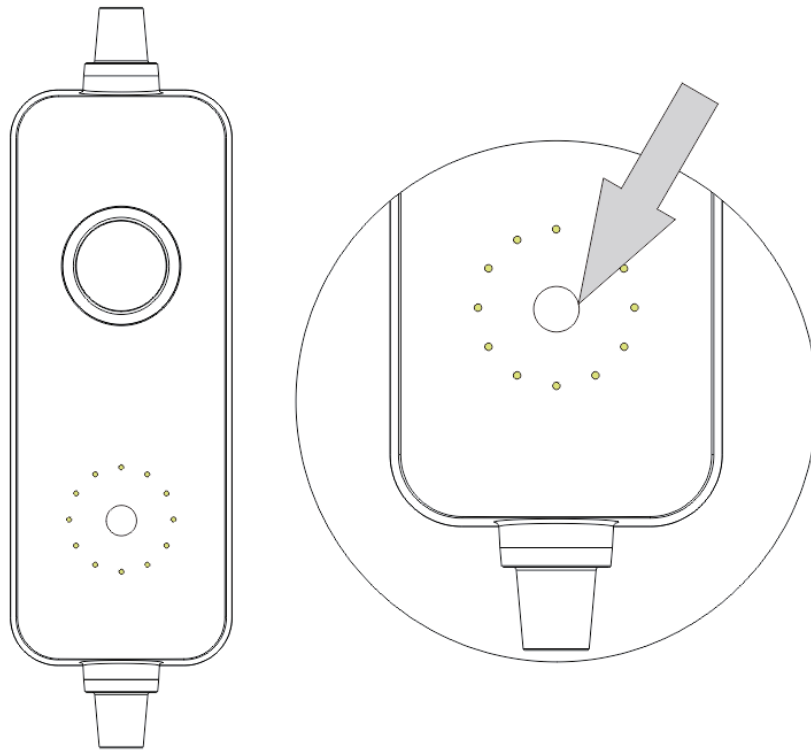

Fig 7 Charging process of switching the current
- After power on, the default charging current is the low gear current. As shown in Figure 7, you can press the touch button to switch to high current (Only in switchable version). The screen displays the corresponding current after every change;